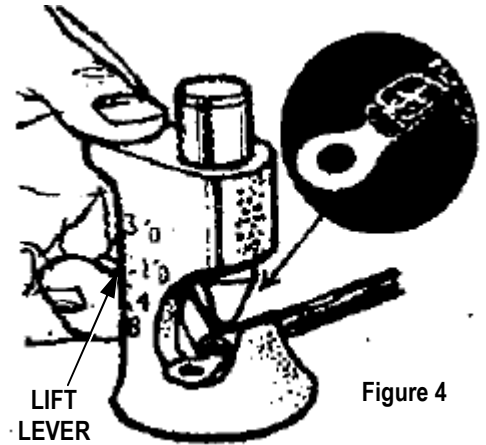

Figure 4
9. Lift the ram by pulling up on the lift lever and removing the crimped assembly. For butt splices repeat this procedure on the opposite side of the barrel. See Figure 4.